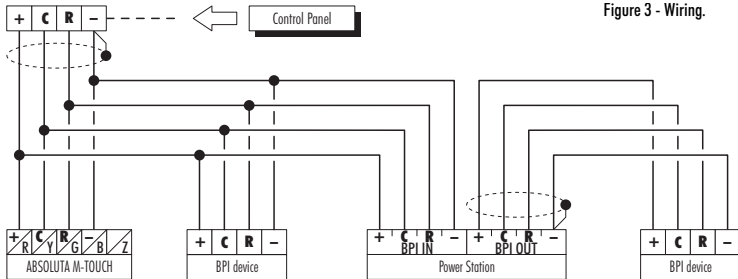

Figure 3 - Wiring.
2. Connect the four BPI bus wires from the control panel (+, C, R, -) to the keypad terminals as shown in Figure 3.